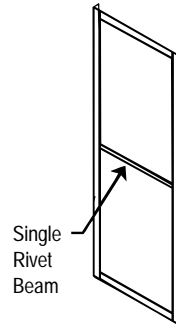

FIGURE 5
Units 6', 7' and 8' tall must have (1) level of single rivet beams from the front to the back located in the middle of the unit. See *Figure 5*.